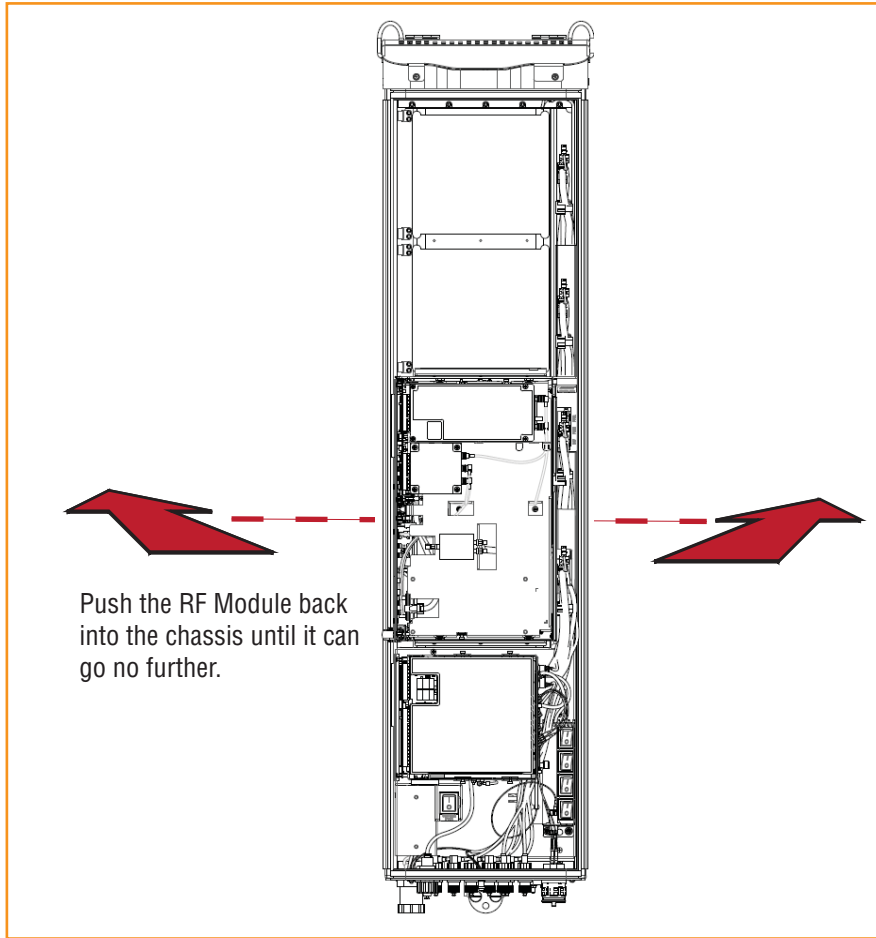

Figure 17. Seating a Dual-Bay RF Module
- For Dual-Bay RF Modules, see Figure 17 on page 32, which uses the Legacy Dual-Bay 40W RF Module as an example.